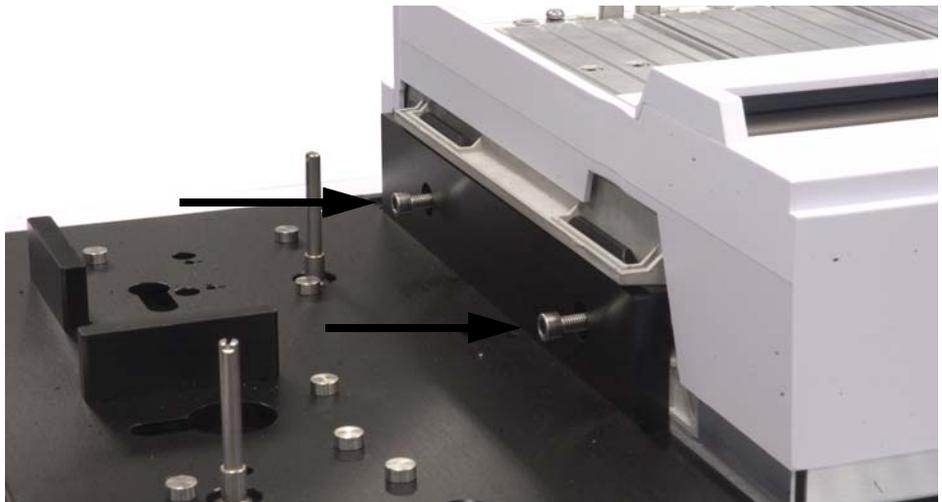

Figure 14 Securing the Sample Tray to the Main Frame mounting bracket
- 3 Using a T-30 Torx driver, install the two T-30 screws into the Main Frame mounting bracket, securing the Sample Tray to the Main Frame base (Figure 14).